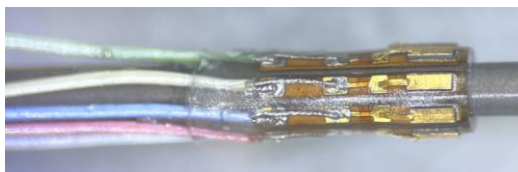

Figure 7: UV cured transducer array
- 7.4.4 At the distal end of the silicone tube, wick Loctite 3961 adhesive onto the sonar assemblies underneath the silicone tube. Remove excess adhesive as necessary. Ensure full length of transducer subassembly is potted with adhesive, taking extra consideration for the solder joints. No air bubbles should be formed over the transducers along indicated length in Figure 8. Allow wicked adhesive to travel proximal from the transducer subassembly for approximately 1mm (Figure 7).